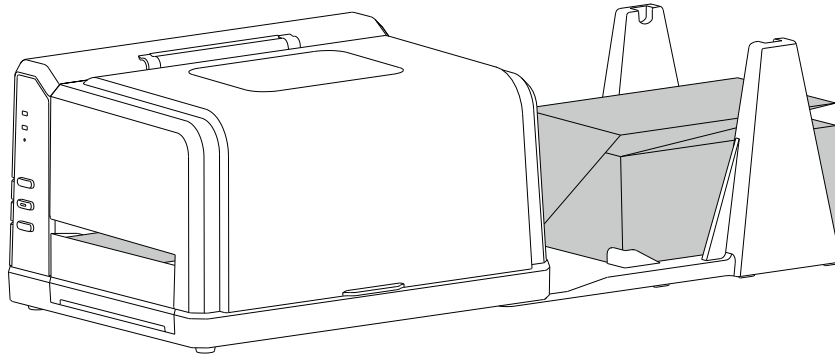

Figure 2-17 Fanfold Label Loaded
5. Press down the Handle of the Printhead to lock the Printhead, then close the right cover. See Figure 2-17.